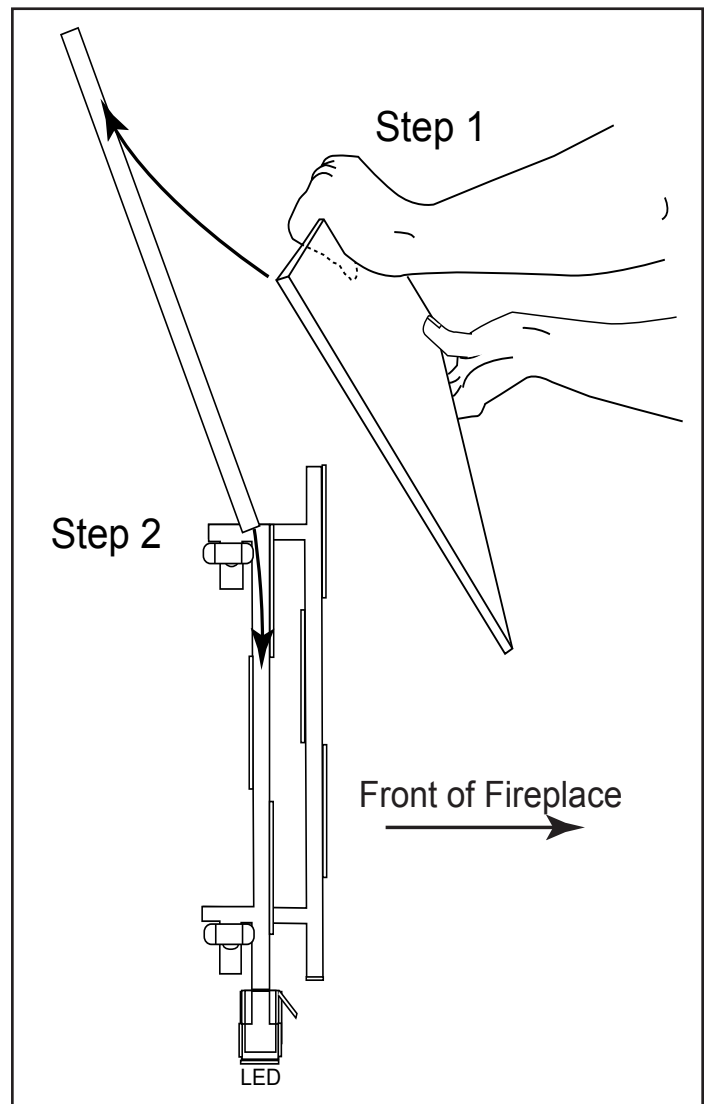

Fig. 39 Installing glass panels.
- Using gloves carefully lift one glass panel, into the fireplace opening, over top of the glass clips, and slide it down into the metal retainer clip, supporting the glass at the top and bottom as you handle it. See Fig. 39
- Install the second glass pane in the same manner as described in Fig. 39.